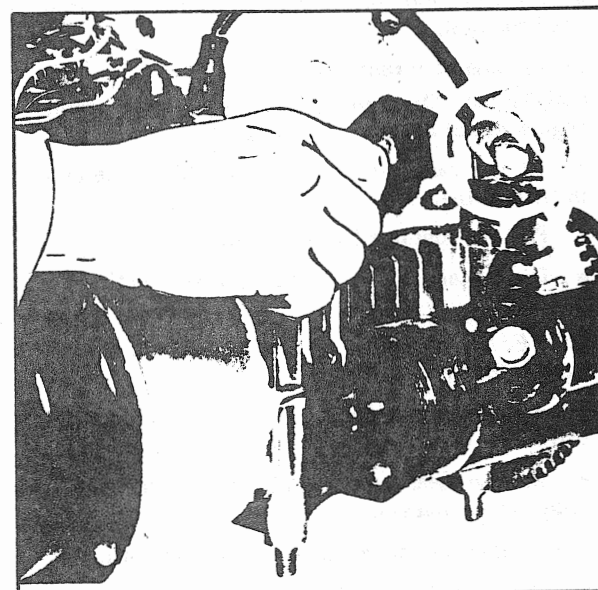

FIGURE 8
- Unscrew the three (3) nuts from the electric starter and crankcase.
- Unscrew the two (2) nuts on the electric starter bracket (fig. 8).